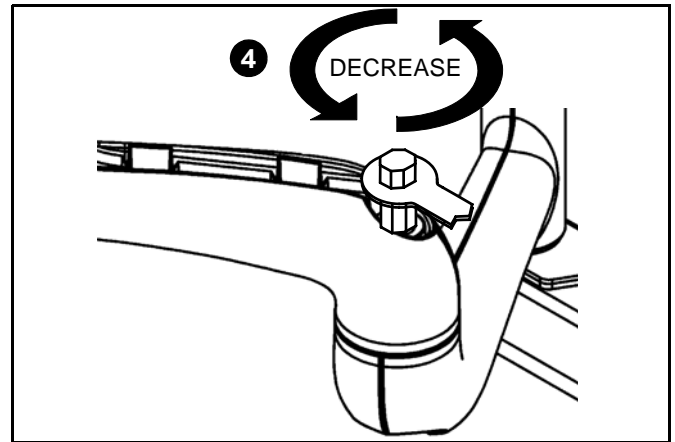
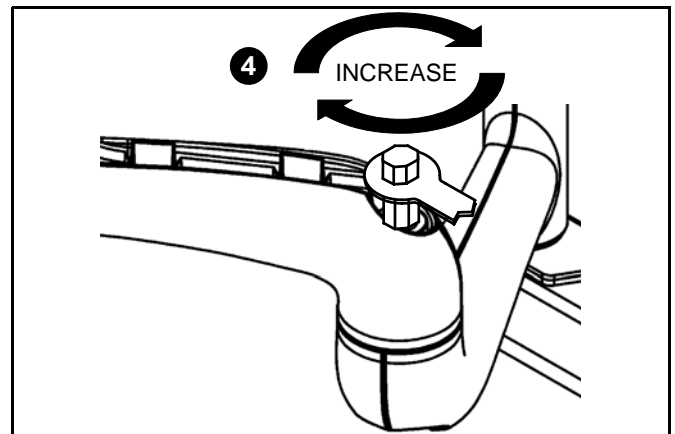

Figure 12
Figure 13
4. Using the adjustment wrench (L), turn adjustment bar (K) clockwise to increase swing arm tension or counterclockwise to reduce swing arm tension. (Small adjustments of 1/8 turn or less are typically all that is required to achieve desired tension.) (See Figure 12) and (See Figure 13)